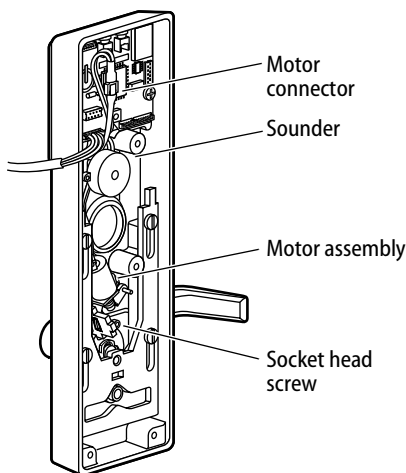

Figure 4 Removing and reinstalling the motor assembly
- 1 Disconnect the motor connector from the primary harness. See Figure 4.
- 2 Position the motor assembly in the escutcheon as shown in Figure 4 and make sure that:
- 5 Reinstall the sounder onto the escutcheon. See Figure 4.